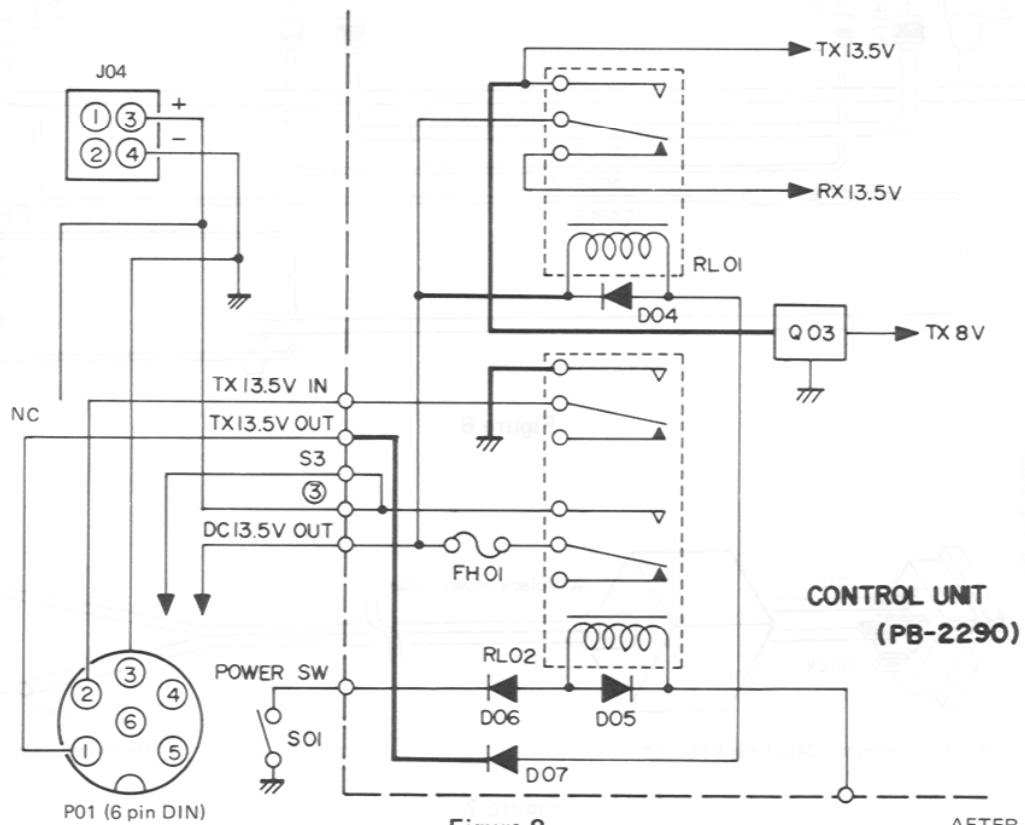

Figure 8
- c. Carefully insulate the end of the red wire with plastic tape, and then slide the shell of the DIN plug over the connections. Schematic diagrams are shown in Figure 8.